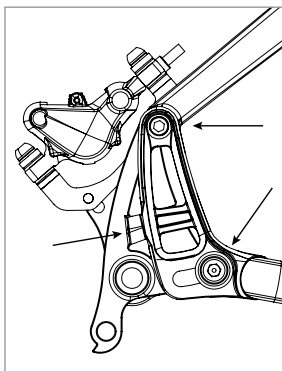

Figure 9
1. Slightly loosen the upper pivot bolts and the lower fixing bolts on both the driveside and non-driveside dropouts (FIG 9).
1. Tighten the upper pivot bolts and swing plate fixing bolts to 8Nm (FIG 9).
3. If present, tighten both tension screws 1/8 turn to prevent them from rattling out during use (FIG 9).